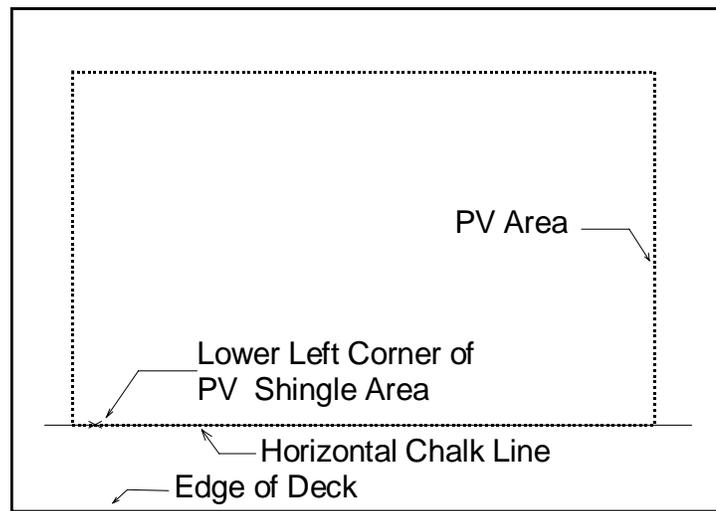

Figure 2
- 1.3 Using the mark in step 1.2. Snap a horizontal chalk line (parallel to ridge) along the length of the PV section of the deck (see figure 2).